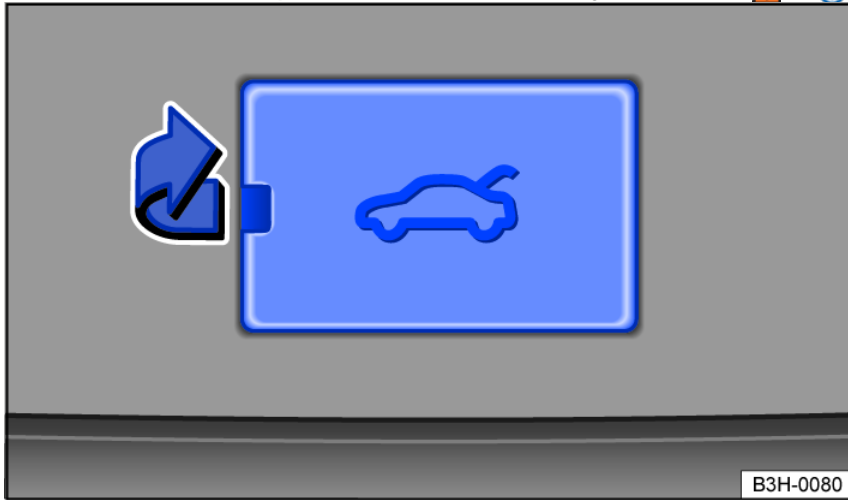

Fig. 55 In the trunk lid: cover for the trunk lid emergency release.
1. Pry off the square cover in the inner trim panel of the trunk lid using a screwdriver fig. 55.